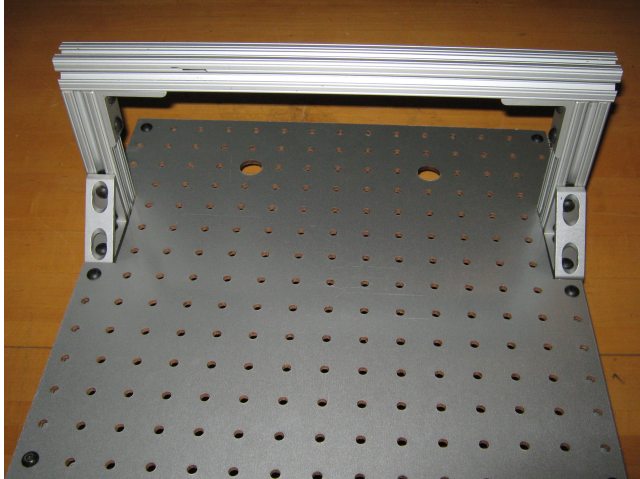

Figure 9: Attach the rollbar to the angle brackets on the top of the robot.
10. Flip over the chassis, and attach the rollbar to the angle braces. It should look like that shown in Figure 9. Move the rollbar and braces as far forward as possible in the pegboard slots, and tighten all the remaining bolts.